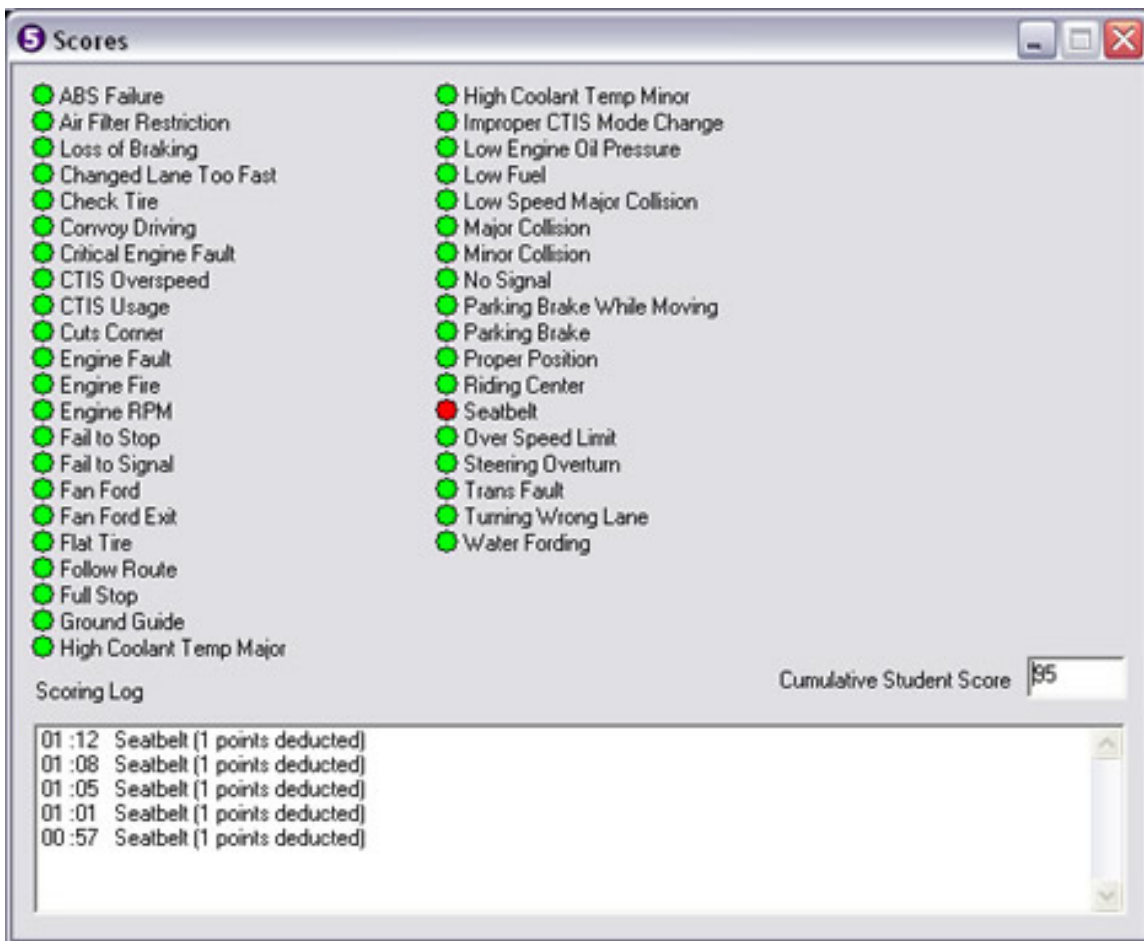

Figure 134. Scores Monitoring Screen
The Scores Monitoring Screen (Figure 134) provides a means of monitoring the driving behavior of the student. The performance parameters are reported on this page in real time. Whenever a scoring threshold is exceeded, the appropriate indicator light flashes red for two to three seconds and the Scoring Log dialog box becomes highlighted in orange. The student's violation is also recorded and displayed in the Scoring Log dialog box with the exact time of the violation and the number of points deducted. The Cumulative Student Score displays the total score for the scenario, which equates to the highest score possible (100) minus the deduction points. In the example below, there are five deductions of one point each, leading to a cumulative student score of 95 (100 - 5). These parameters provide a visual indicator for the instructor to recognize situations where a student has not performed within desired parameters. Not all scoring items are active for each scenario and the scoring items differ per CDT variant.